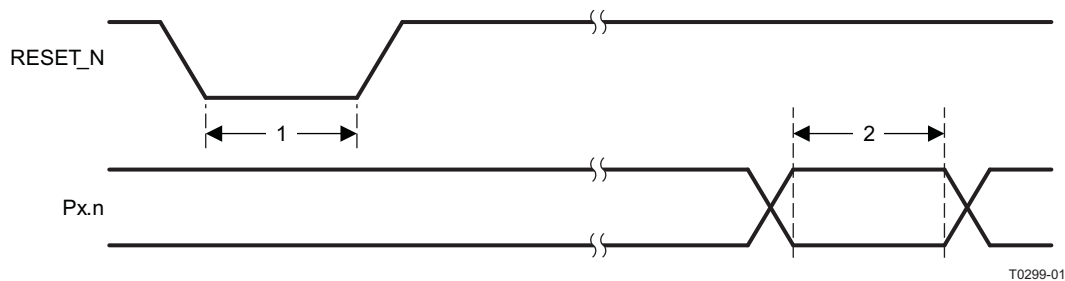

Figure 4-1. Control Input AC Characteristics
| RESET_N low duration | See item 1 in Figure 4-1. This is the shortest pulse that is recognized as a complete reset pin request. Note that shorter pulses may be recognized but do not lead to complete reset of all modules within the chip. | 1 | | | μs |
| Interrupt pulse duration | See item 2 in Figure 4-1. This is the shortest pulse that is recognized as an interrupt request. | 20 | | | ns |